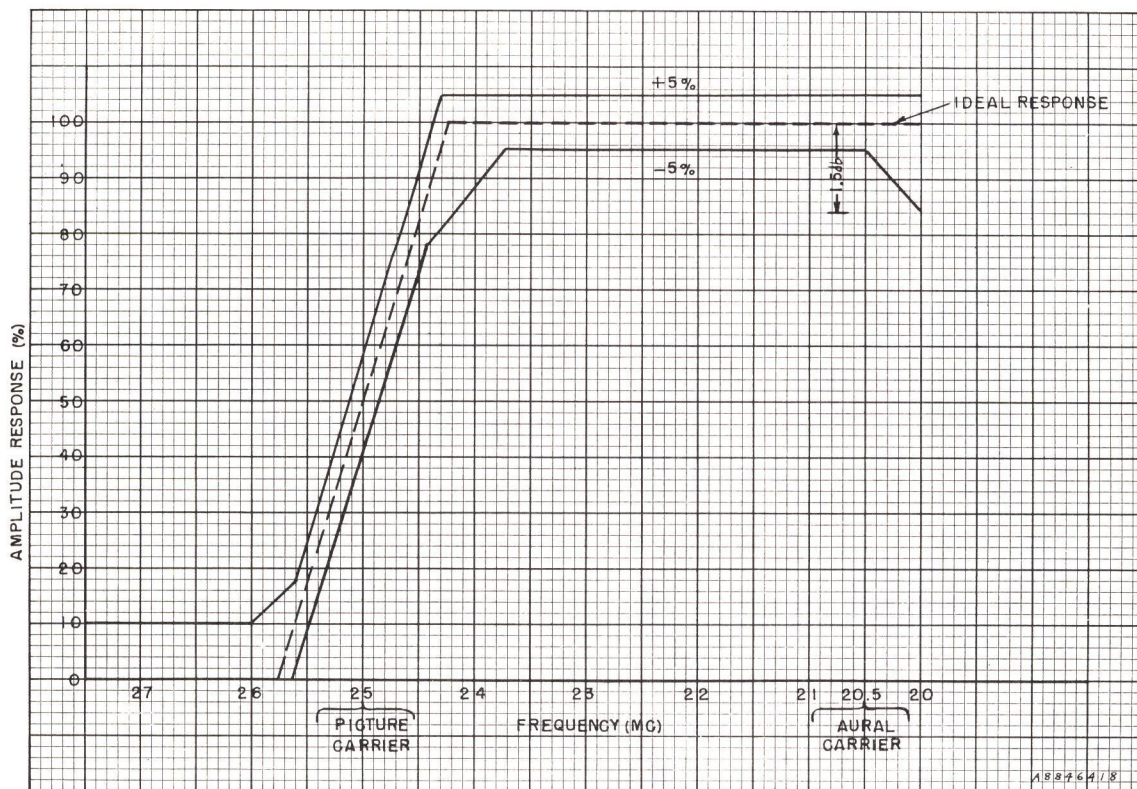

Figure 3 - IF Amplifier Response, Sound Notch Out
17. With the sweep generator operating, observe the amplitude response curve on the oscilloscope. Referring to Figure 3, superimpose marker signals on the sweep signal at the indicated frequencies and, if necessary, make slight readjustments of L9, L10, L11, and L12 to obtain the desired response.